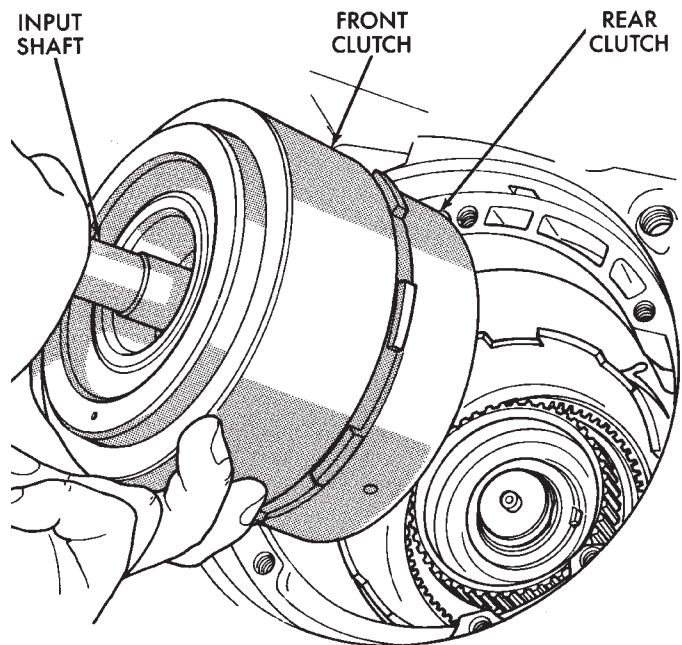

Fig. 173 Installing Front/Rear Clutch Assemblies
(25) Install front and rear clutch units as assembly (Fig. 173). Align rear clutch with front annulus gear and install assembly in driving shell. **Be sure output shaft thrust washer and thrust plate are not displaced during installation.**
(26) Carefully work assembled clutches back and forth to engage and seat rear clutch discs on front annulus gear. Also be sure front clutch drive lugs are fully engaged in slots of driving shell after installation.